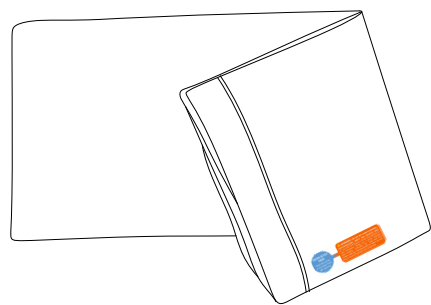

Fig. 2
**Step 4:** Remove liner (Item G) from liner packaging, unfold the liner and find the blue, circular label. This will be the front, lower right corner of the open face of the spray booth. Fig. 2 (left). Choose which corner you wish this to be and move the blue dot of the liner to that area.